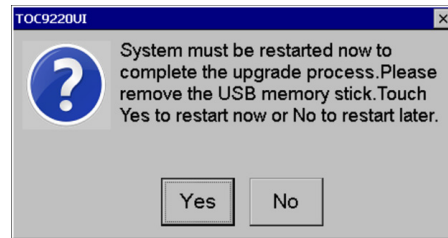

Figure 4.54 System Restart
2. The 9220 will need to be rebooted by the operator, after the USB memory stick is removed (Figure 4.54).